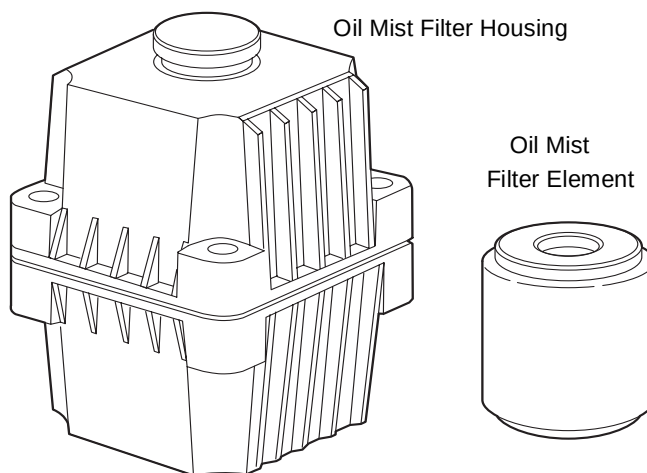

Figure 5-4 Oil Mist Filter Assembly
2. Unscrew the NW25 clamp, and remove the exhaust line from the top of the oil mist filter housing (Figure 5-4).